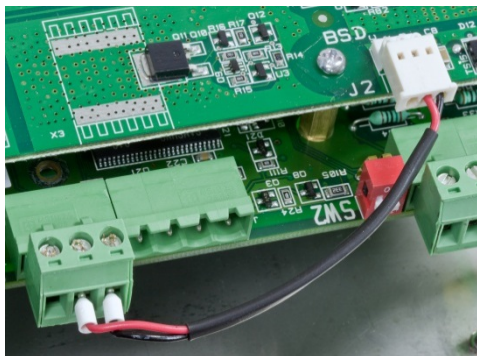

Figure 3-31: IND560x-PAB (J2) to IND560x (J1) Connection
9. One further connection is required, between J2 of the IND560x-PAB and J1 of the IND560x main board. A connector is included in the IND560x-PAB installation kit. Install this connector according to the wire color code listed in Table 3-9 and as shown in Figure 3-31.